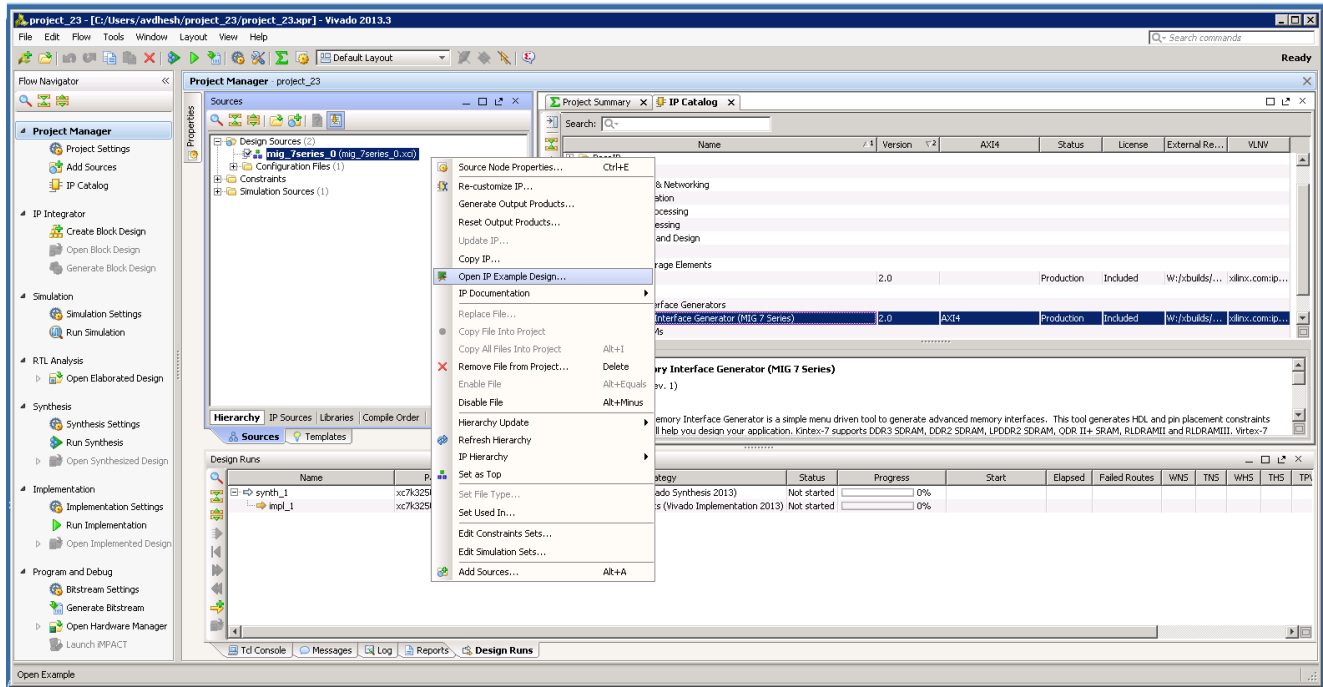

Figure 5-26: Open IP Example Design
9. Vivado supports **Open IP Example Design** flow. To create the example design using this flow right-click the IP in the **Source Window**, as shown in Figure 5-26 and select.